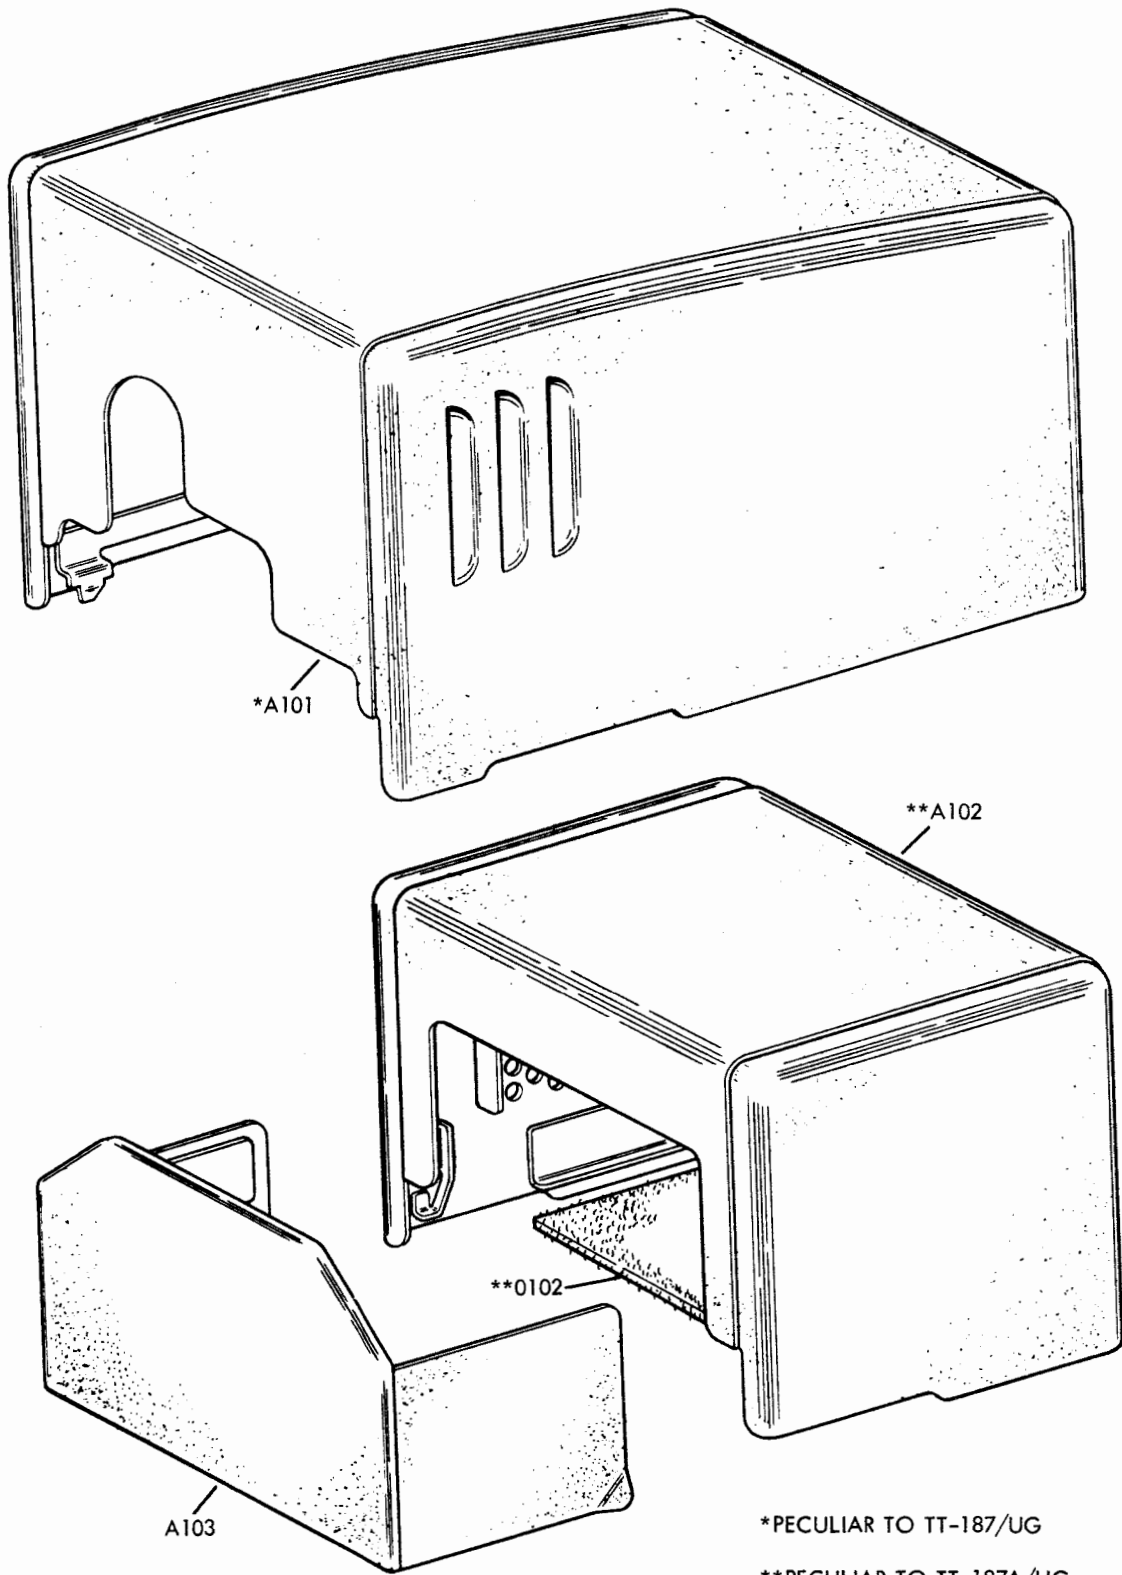

Figure 6-1. Covers
b. Exploded illustrations, figures 6-1 through 6-15, are grouped on a functional basis, insofar as possible. They are keyed to the Maintenance Parts List, Table 7-2, by their reference designations. See table 7-1 for the systematic assignment of reference designation numbers to the major components. The arrangement of the major components in the exploded illustrations is as listed below:
(1) Turn the main power switch to OFF position (down) before removing the cover or front panel.
(2) If there is an external power control, shut off external power before removing base mounted components. This precaution is not necessary, however, for removal of the distributor-transmitter mechanism on the miniaturized set, TT-187A/UG, which is equipped with a quick disconnect plug.
b. COVER (See figure 6-1.) — There are no attaching parts to be removed in removing the cover. The lower corner of the rear edges of the front panel are flanged so they can be spread to release the slots detented on the transmitter mechanism. Pull the front panel forward to remove. Lift the rear cover free of the gear guard and terminal boards. To reassemble, reverse the order used in disassembly.